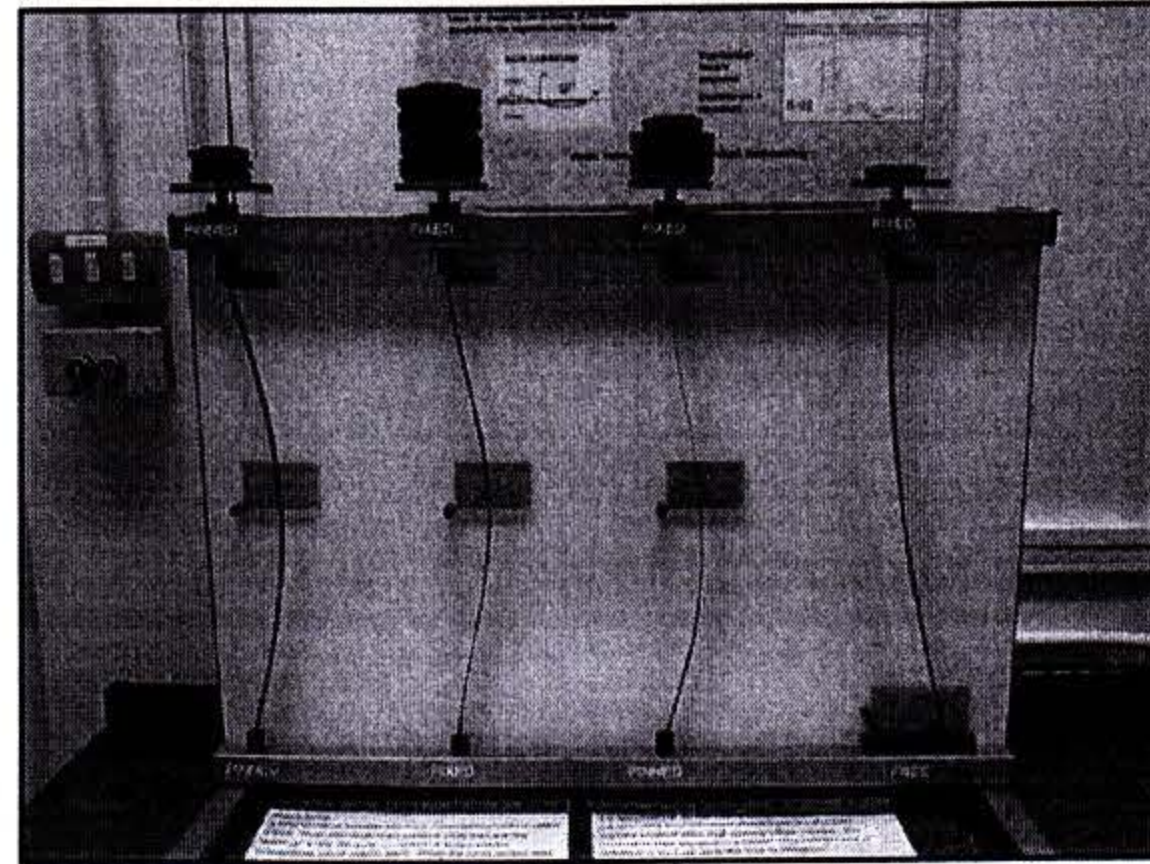

Fig. 2
- Fig. 2 shows buckling test results of 30"-long columns (0.60"-diameter) of different support conditions (i.e. Col 1: Hinged-Hinged, Col 2: Fixed-Fixed, Col 3: Fixed-Hinged and Col 4: Fixed-Free).